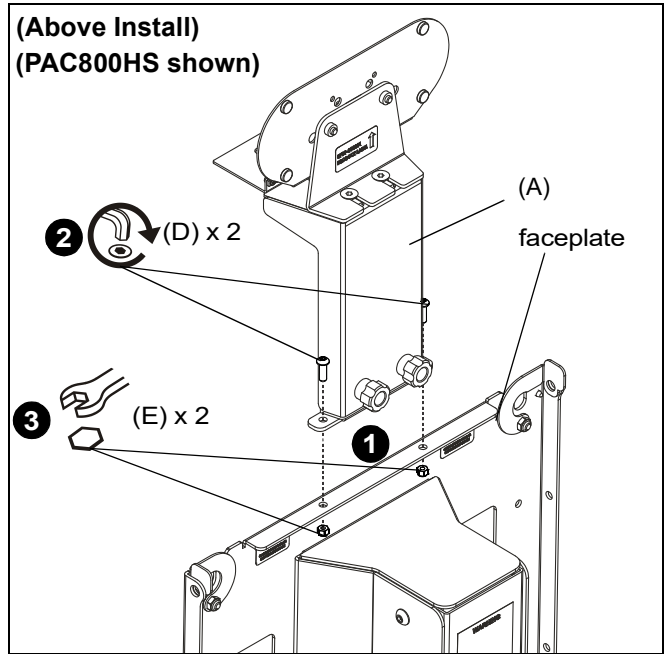
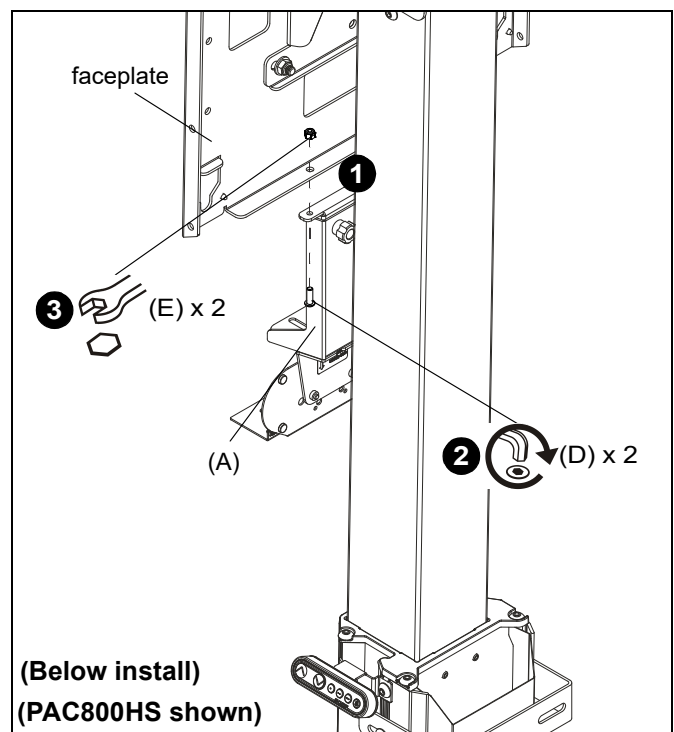

Figure 3
Figure 4
1. Position main bracket (A) above or below the faceplate making sure to line up the holes on the bracket with the holes on the faceplate. (See Figure 3) or (See Figure 4)
2. Install two 1/4-20 x 3/4" button head cap screws (D) through holes in bracket (A) and faceplate. (See Figure 3) or (See Figure 4)
3. Thread two 1/4-20" lock nuts (E) onto screws (D) to secure bracket (A) to faceplate. (See Figure 3) or (See Figure 4)